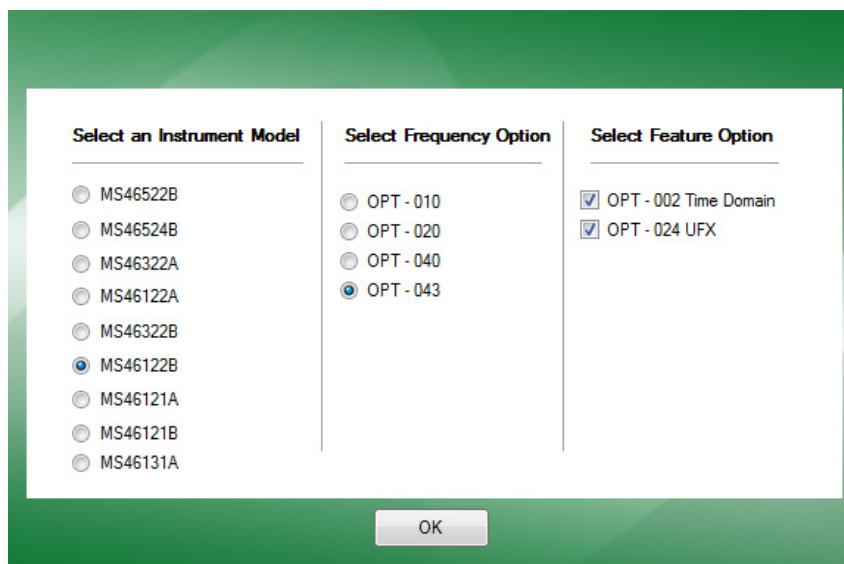

Figure 3-7. Simulator Select Instrument
3. Once Simulation Mode is selected, the default menu screen appears, see Figure 3-7.